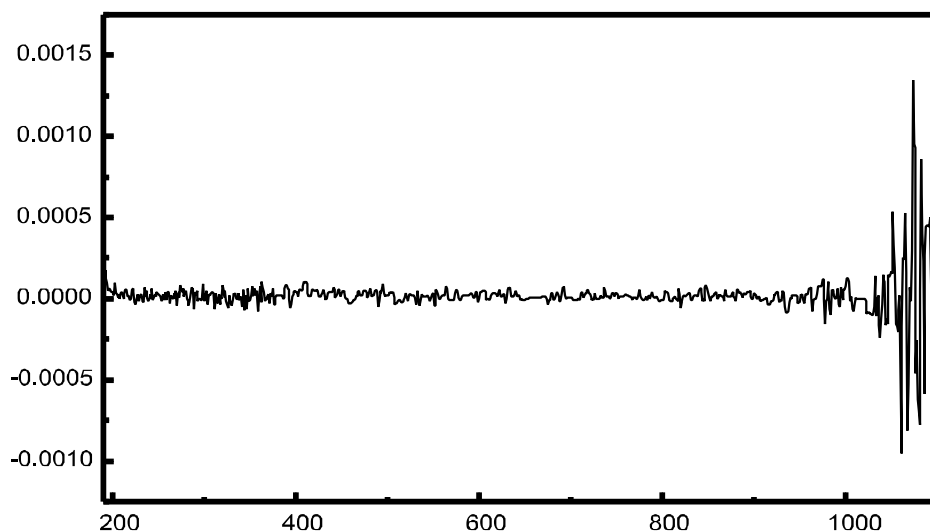
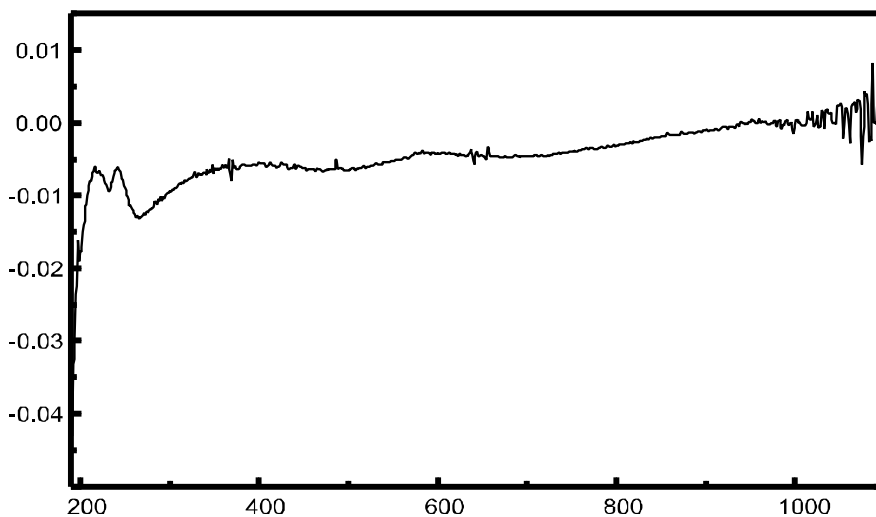

Figure 9 Example of a blank on water showing a good baseline
Figure 10 Example of a blank on water with bubbles causing a poor baseline
- ✓ Blank measurement shows a flat baseline (Figure 9 and Figure 10 on page 66 show a good and a poor baseline)
If your blank or spectra shows artifacts similar to those in Figure 10, see "Solvents" on page 61 to optimize the measurement procedure.